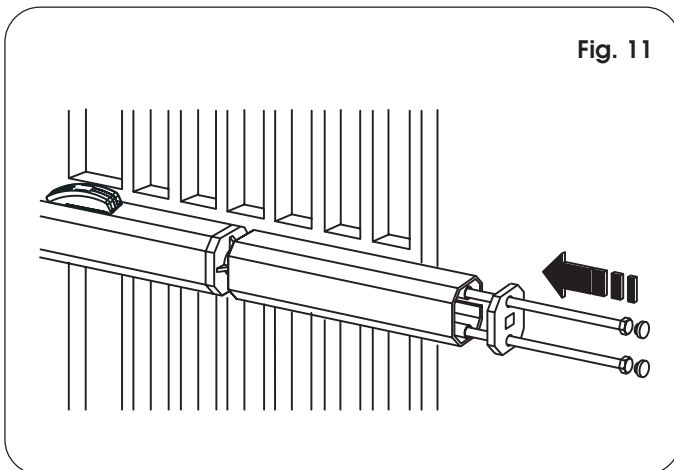
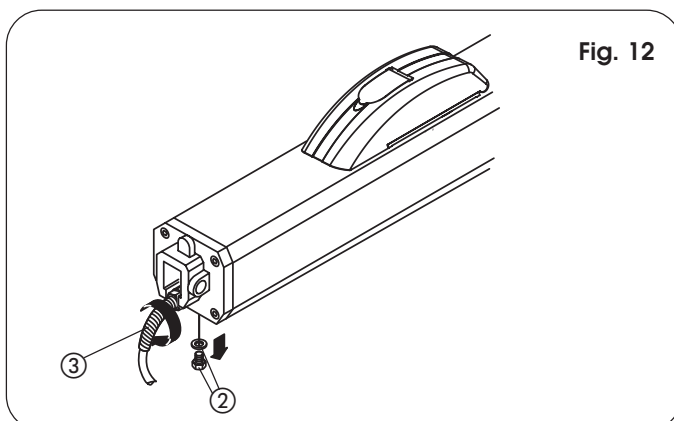

Fig. 11
Fig. 12
- 12) Prepare the protective housing and fit it on the operator as shown in Fig. 11. Fit the electric cable bend guard (ref.③ Fig. 12).
- Remove the breather screw (Fig.12, ref. ②)